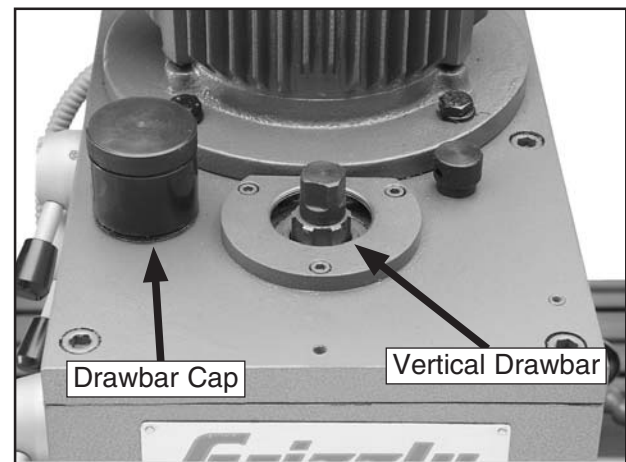

Figure 24. Vertical spindle drawbar.
4. Remove the drawbar cap from the top of the headstock (see **Figure 24**).